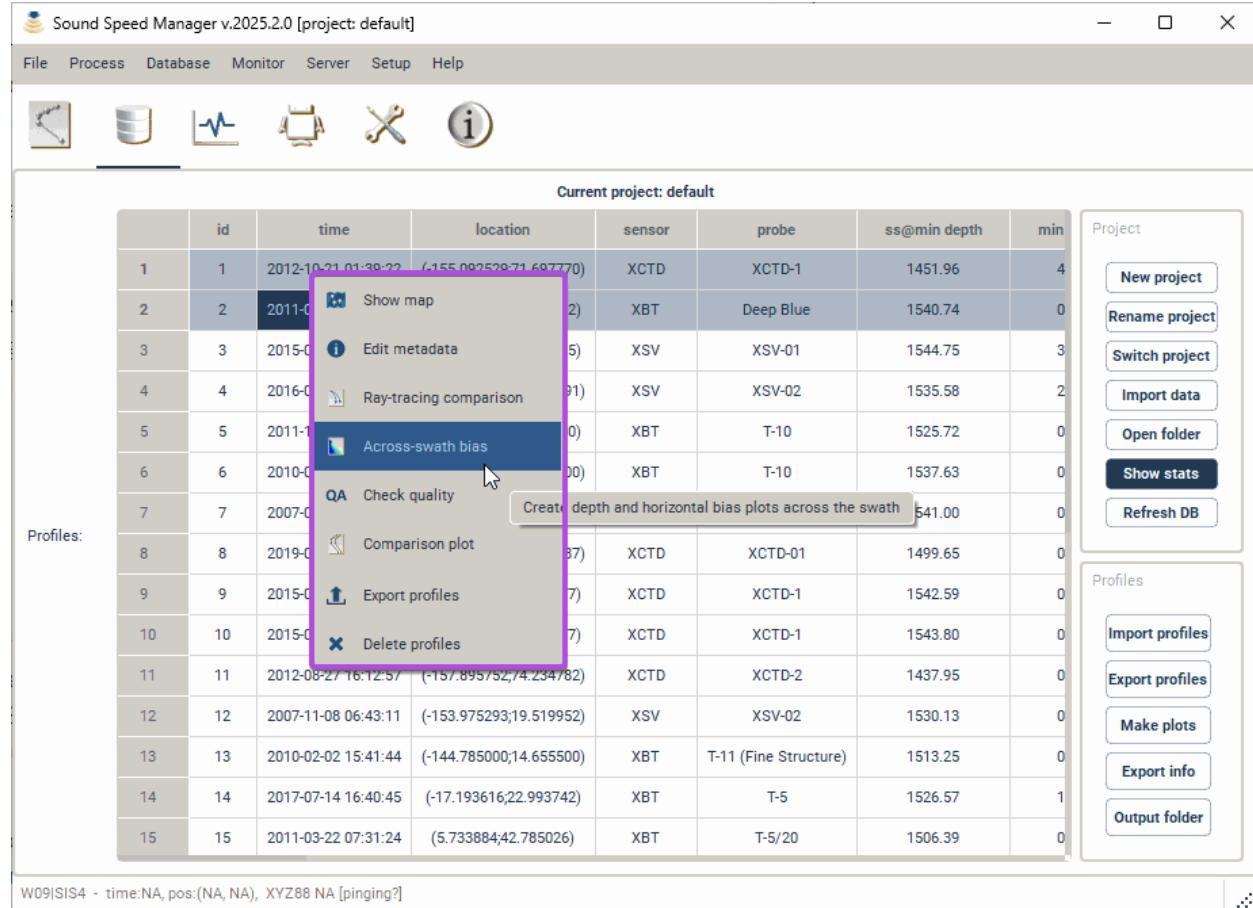

Fig. 2.49: The pair-selection context menu provides functionalities like ray-tracing comparison (Fig. 2.50) and bias plots (Fig. 2.51).
- Pair-profile selection (Fig. 2.49).